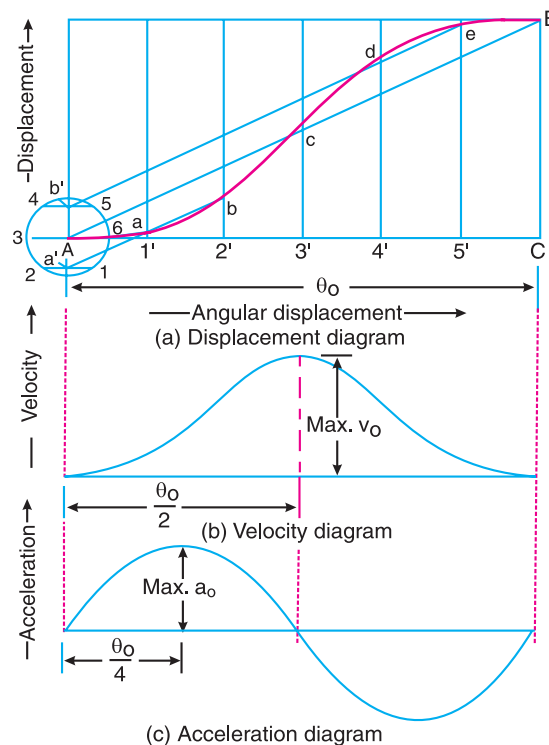

Fig. 20.9. Displacement, velocity and acceleration diagrams when the follower moves with cycloidal motion.
The displacement, velocity and acceleration diagrams when the follower moves with cycloidal motion are shown in Fig. 20.9 (a), (b) and (c) respectively. We know that cycloid is a curve traced by a point on a circle when the circle rolls without slipping on a straight line.
2. Divide the circle into any number of equal even parts (say six). Project these points horizontally on the vertical centre line of the circle. These points are shown by a' and b' in Fig. 20.9 (a).
The velocity and acceleration diagrams are shown in Fig. 20.9 (b) and (c) respectively.